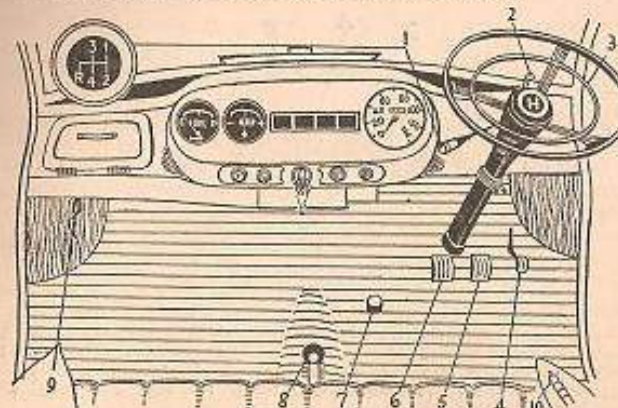
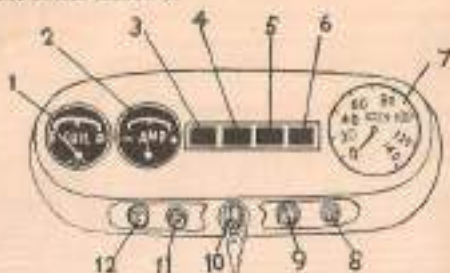

Fig. 2
Fig. 3
The combined ignition-start switch is located in the centre of the control panel (See Fig. 3 item 10) and is operated by a removal key which also locks the driver's door and luggage compartment lid. The first movement of the switch switches on ignition circuit (indicated by the red warning light—see fig. 3 item 6). Further rotation of the switch against the pressure of a spring operates the starter. On releas-
On the right hand side of the control panel, next to the ignition-start switch is located the lighting switch (See Fig. 3 item 9). It is two position pull-push switch. Pulling out the switch to its first position switches on the side and tail lamps; pulling the switch further out lights on the head lamps. The blue beam warning light glows when the beams are in raised position.
The panel light switch is located at the extreme right of the control panel (See Fig. 3 item 8) and is pull-push type. The light is switched on when the knob is pulled provided the side lamps are switched on.
The two windshield blades are operated by a pull-push switch marked 'W' and is located on the left hand side next to the ignition-start switch (See Fig. 3 item 11). Pull the switch knob out to bring both the blades in operation. Parking of the blades is automatic when the switch is pushed back to the 'off' position.
To enrich the mixture and assist starting when the engine is cold, pull the control knob marked 'C' located at the extreme left on the control panel (See Fig. 3 item 12).
This is the amber lamp (See Fig. 3 item 3) which glows when the ignition switch is switched on and engine is not running. It should go out when the engine is started and should remain out all the time the engine is running. Should this light continue to remain 'on' while engine running or does not light when the ignition is in the 'on' position before starting the engine, your dealer should be contacted immediately for necessary correction.
The light, located second from left (See Fig. 3 item 4), glows 'blue' when the head lamps are on and the beams are in the raised position in order to remind the driver to dip for approaching traffic.
This is the small 'green' lamp located next to the blue main beam warning lamp (See Fig. 3 item 5). Whenever the flashing direction indicator lamps are operated by moving the small centrally located lever on the steering hub (See Fig. 2 item 2), the flasher warning lamps also light on and serve as a warning, should any failure occur in the system.
This is the small 'red' lamp located at the extreme right hand side and next to the green flasher warning light (See Fig. 3 item 6). Whenever the ignition is switched on, the lamp lights up. It should go out as soon as the engine speed is increased. Should it fail to do so ascertain that dynamo belt is not broken or loose. If the belt is undamaged and is not loose, the dynamo is not charging. Electric circuit should be examined for location and rectification of the fault.
The speedometer is situated on the right-hand side of the instrument panel (See Fig. 3 item 7) and gives indication of the total distance travelled.
This is the small 'green' lamp located next to the blue main beam warning lamp (See Fig. 3 item 5). Whenever the flashing direction indicator lamps are operated by moving the small centrally located lever on the steering hub (See Fig. 2 item 2), the flasher warning lamps also lights on and serves as a warning, should any failure occur in the system.